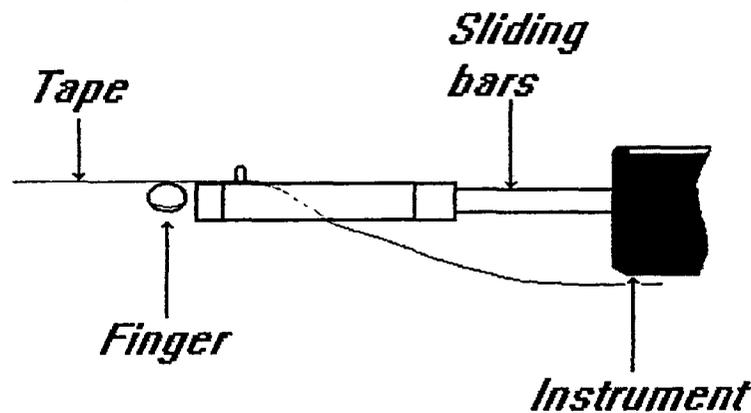

Figure 4. Tensioning the Tape.
3.2.5 Place a finger under the tape, as shown in figure 4, and **gently** lift the tape so as to relieve a small amount of tension on the tape – the green light should go off. **Gently** removing the finger should cause the green light to come on again. If the green light stays off, turn the winding handle clock-wise a small amount until enough tension is being applied so that the green light goes on and off again with gentle placing and removing of the finger under the tape. The tape is now at the correct tension.